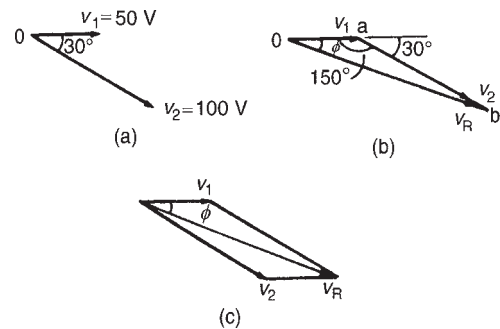

Figure 14.11
Phasors are usually drawn at the instant when time $t = 0$. Thus v_1 is drawn horizontally 50 units long and v_2 is drawn 100 units long lagging v_1 by $\pi/6$ rads, i.e. 30° . This is shown in Fig. 14.11(a) where 0 is the point of rotation of the phasors.
- (i) Draw v_1 horizontal 50 units long, i.e. oa of Fig. 14.11(b)
- (ii) Join v_2 to the end of v_1 at the appropriate angle, i.e. ab of Fig. 14.11(b)
Alternatively, when two phasors are being added the resultant is always the diagonal of the parallelogram, as shown in Fig. 14.11(c).
on triangle Oab of Fig. 14.11(b) gives: